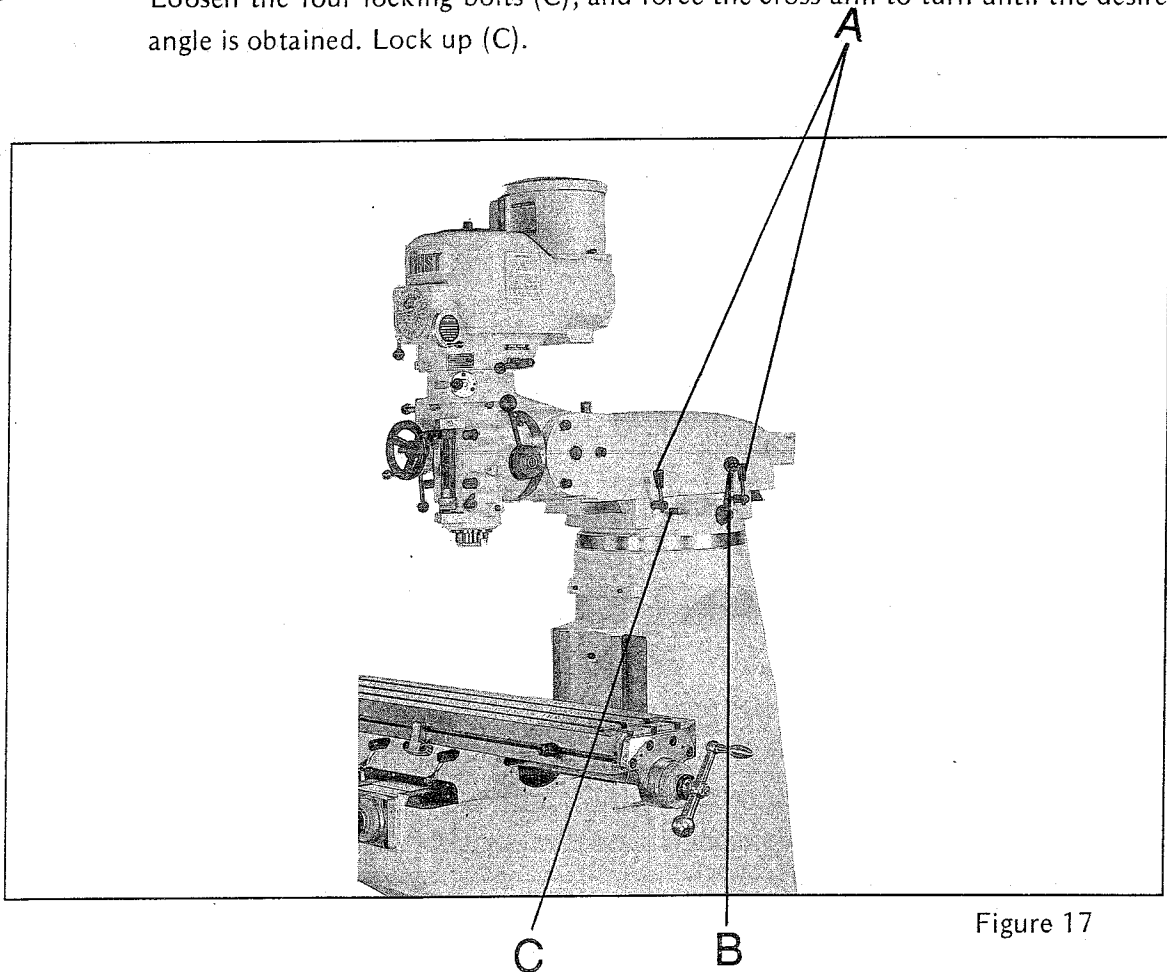

Figure 17
(1) Ram Movement and Swiveling (See Figure 17):
- a. Loosen the two Ram lock levers (A).
- b. Swivel the Ram pinion handle (B), and the Ram can be moved.
- c. When it moves to the desired position, lock up (A).